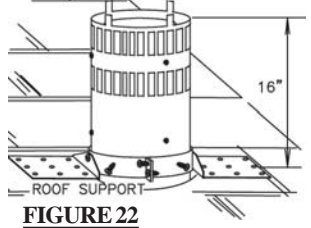

FIGURE 22
2. Fasten the roof support to the roof using the screws provided. **FIGURE 22.** The roof support is optional. In this case the venting is to be adequately supported using either an alternate method suitable to the authority having jurisdiction or the optional roof support.
5. Thread the air terminal pipe assembly down through the roof support and attach, ensuring that a minimum 16" of air terminal will penetrate the roof when fastened. **FIGURE 22.** If the attic space is tight, we recommend threading the Wolf Steel vent pipe collar or equivalent loosely onto the air terminal assembly as it is passed through the attic. **FIGURE 28.** The air terminal must be located vertically and plumb.